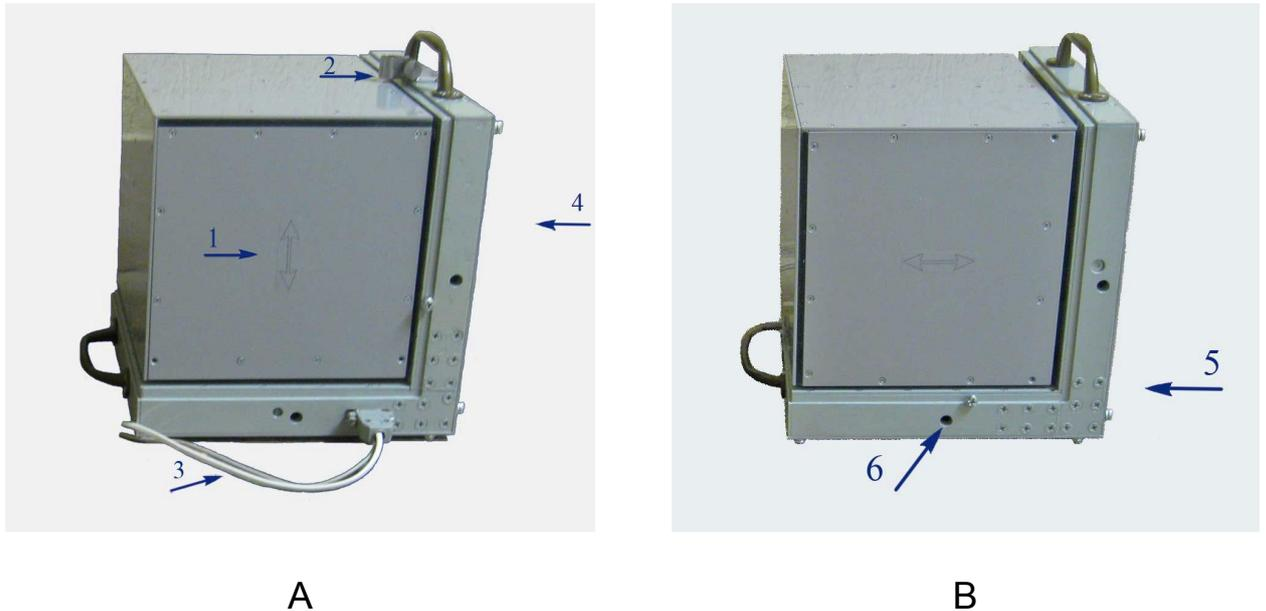

Fig.2. Stand.
- In the position of the vertical swing using lever , Figure 2, first visual output moving part to the swing zone, then by a dial indicator to adjust the average, the zero position,
- In the position of the horizontal swing center position should be adjusted by screw 5, Figure 2,